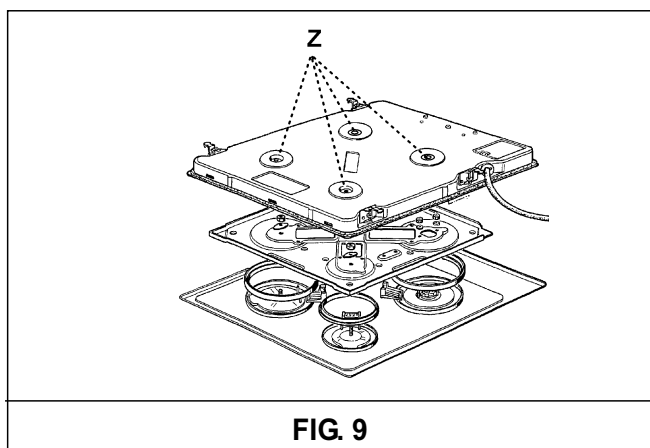

FIG. 9
a) remove the hotplate from the top of the cabinet, overturn it, unscrew screw "Z" and remove under part (see fig. 9).
For access to the various parts, remove the hotplate from the top of the cabinet. Then overturn it, unscrew screw "Z" and remove under part. (see fig. 9).